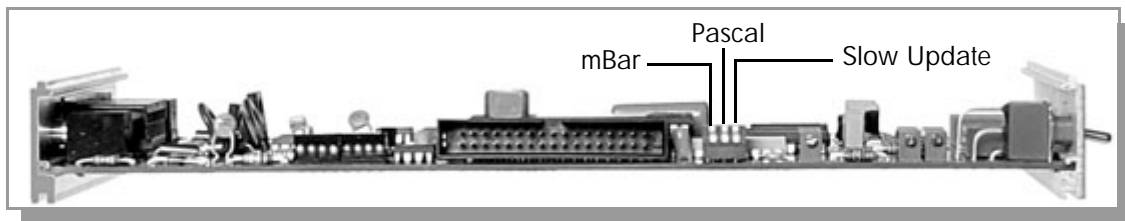

Figure 2-5 Convectron Gauge Module Top View.
3. Locate the Convectron Gauge module (see Figure 2-5).
When "ON", this the Slow Update switch on the Convectron module enables pressure averaging. The display will be updated approximately every 3 seconds. When "OFF", the update period is approximately 0.5 seconds. Refer to Figure 2-5.